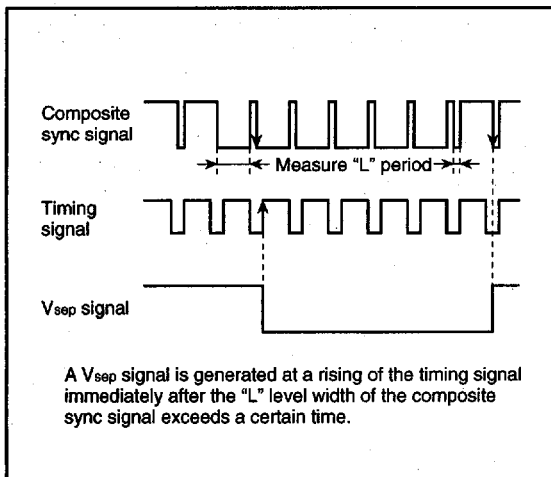

Fig. 21.  $V_{sep}$  generating timing (method 2)
- Method 2 The "L" level width of the composite sync signal is measured. If this width exceeds a certain time, it is detected whether a falling of the composite sync signal exits or not in the "L" level period of the timing signal immediately after this "L" level. If a falling exists, a  $V_{sep}$  signal is generated in synchronization with the rising of the timing signal (refer to Figure 21).
Figure 21 shows a  $V_{sep}$  generating timing. The timing signal shown in the figure is generated from the reference clock which the timing generating circuit outputs.